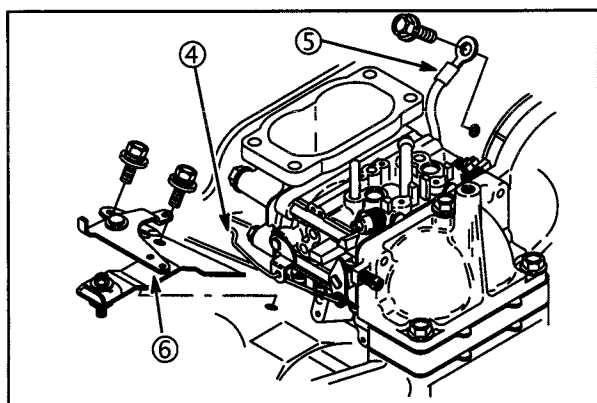

Fig. 17
2. Remove anti-afterfire solenoid ground wire (5).
3. Remove choke control bracket (6) and disconnect link (4), **Fig. 17**.